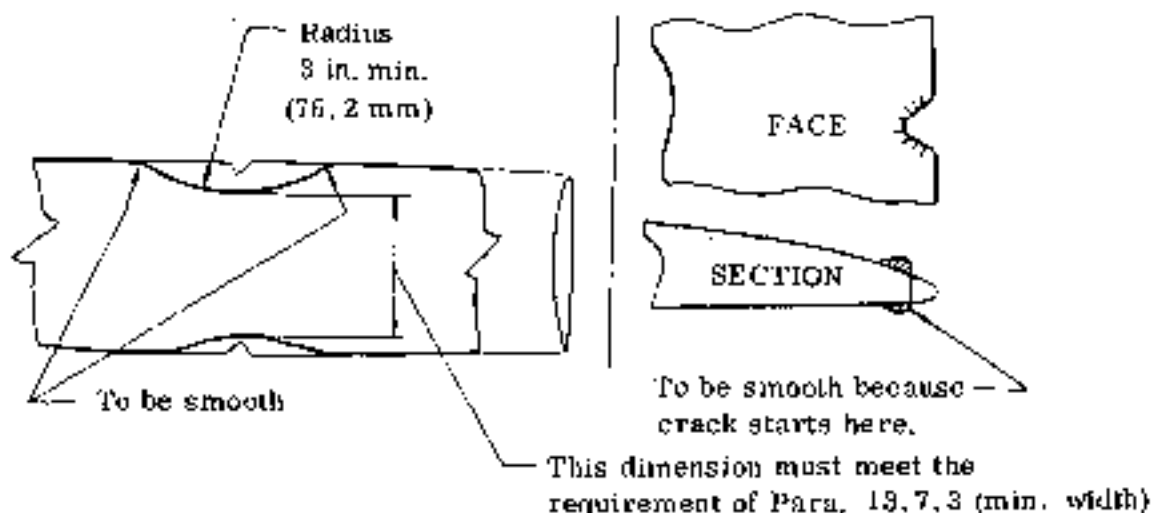

Fig. 6-53
- (1) Nicks on leading edge or trailing edge of blades (See Fig. 6-53)